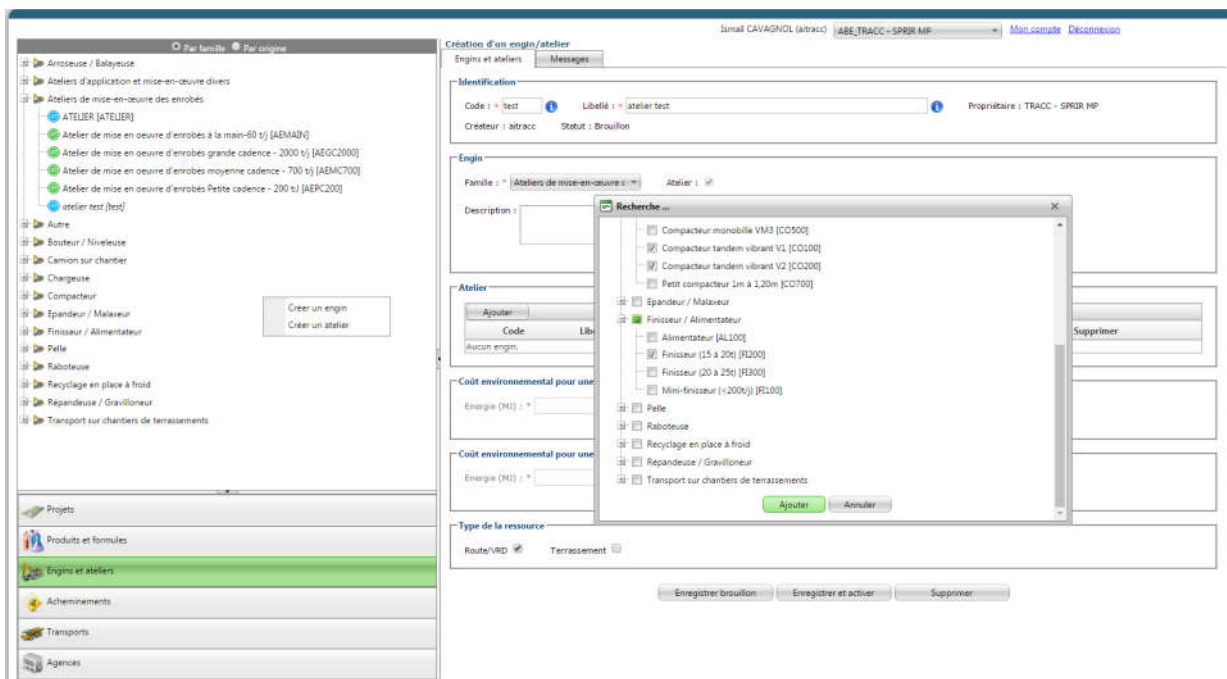

Figure 72 – Machine information in the workshop
- 5- Click on "Add" in the "Workshop" box to add gear in the workshop (Figure 72).